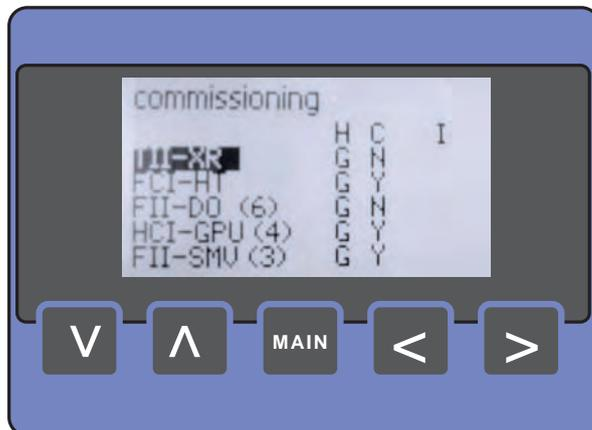

FIGURE 4-13
- The [commissioning] menu starts with the [board list] screen (see FIGURE 4-13).